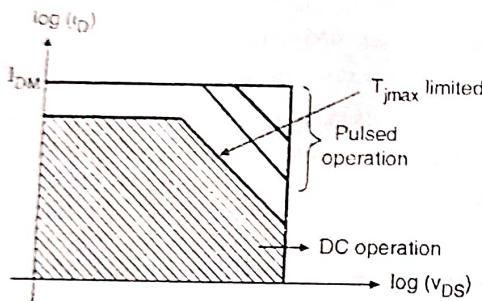

Fig. 2.6.2 : SOA of a n-channel enhancement mode MOSFET. Note that second breakdown is absent
- The SOA is a graph of $\log V_{DS}$ on X-axis versus $\log I_D$ on Y-axis as shown in Fig. 2.6.2.
- Note that the MOSFET does not have any second breakdown problem like BJT. The SOA for the DC operation is the shaded portion of Fig. 2.6.2 whereas for the switch mode applications the SOA is a square.